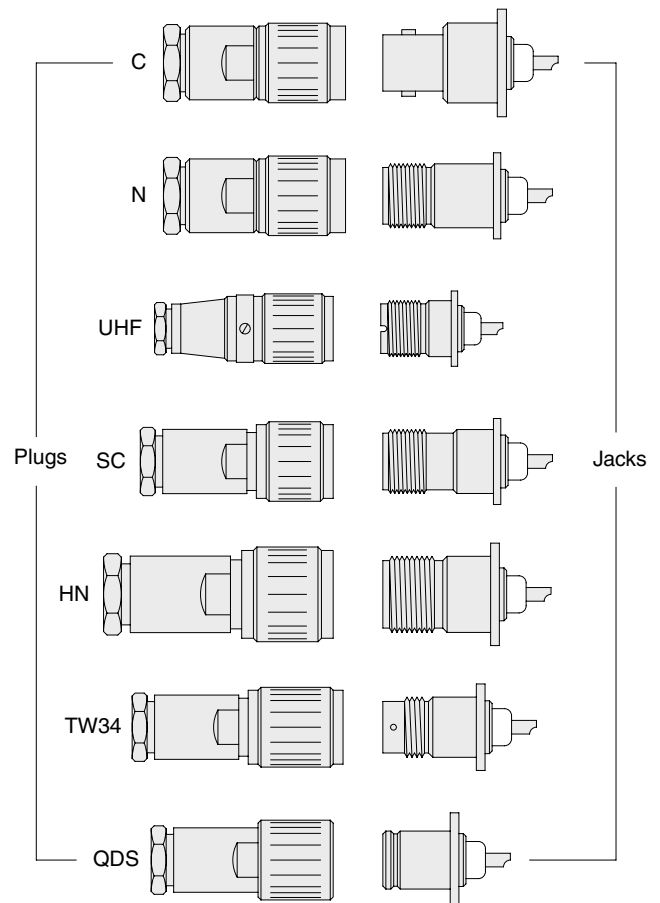

Figure 9-37 Medium Size RF Connectors
Figure 9-37 shows an assortment of *medium* size RF connectors. This size range of connectors is commonly found on amateur, commercial, and marine radio communications equipment. The ultra high frequency (UHF) design is the connector of choice for citizens band (CB) radios.